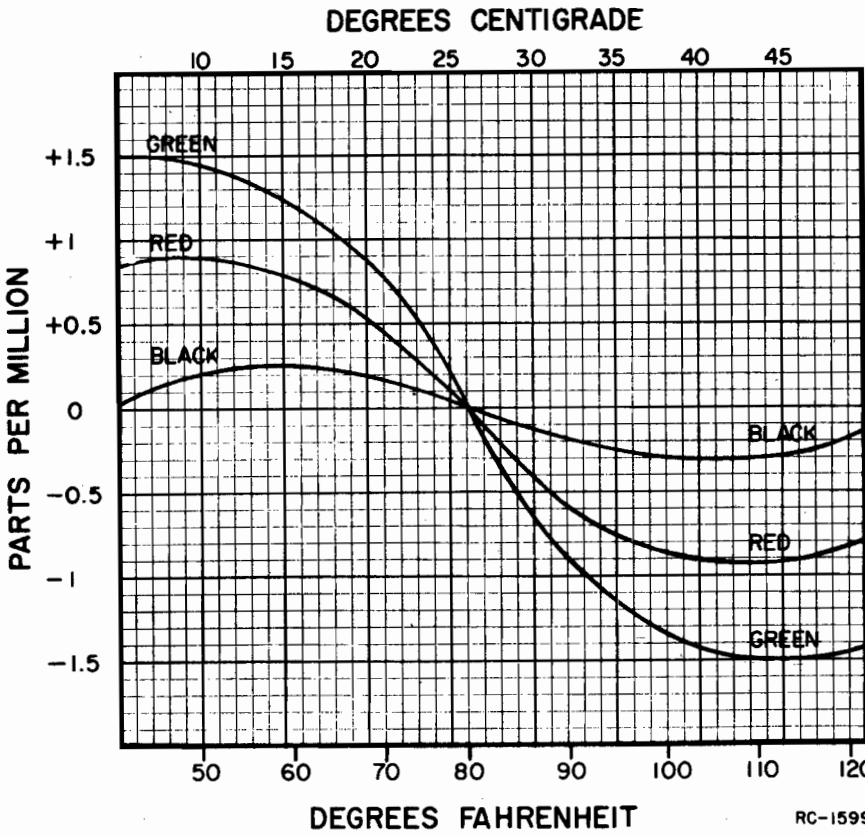

Figure 6 - ICOM Correction Curves
- 4. If the temperature is not within the 80°F (±4°F) or 26.5°C (±2°C) range, use the correction curves of Figure 6 for setting the ICOM frequency as follows:
- b. Multiply the frequency stenciled on the ICOM by 3 and then multiply this figure by the correction factor (from Figure 6) observing the sign (±) given to the correction factor.